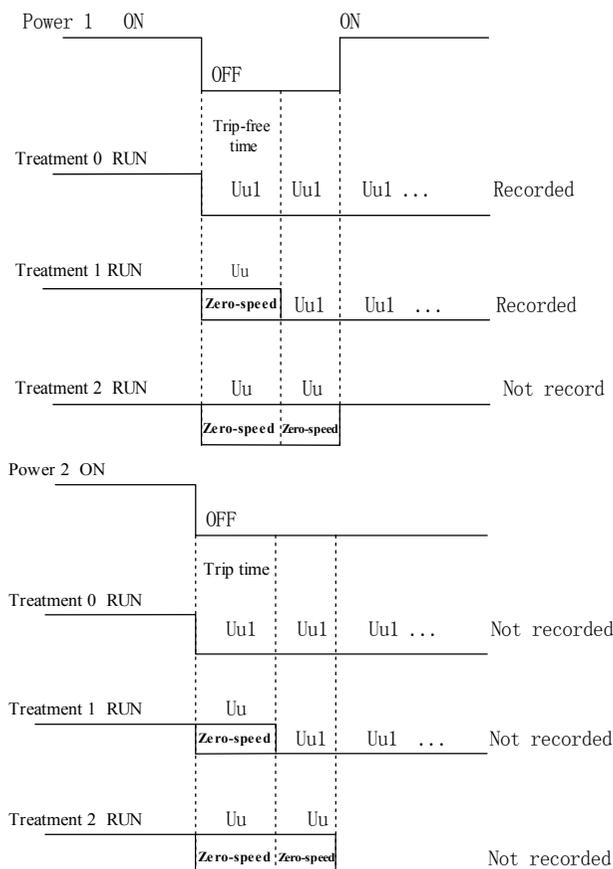

Fig. 5-1-7 Trip-free diagram
- ◆ If under voltage occurs in trip-time, the inverter will display Uu alarm only, and the motor cannot startup at this time. As shown in Fig. 5-1-7:
- ◆ If under voltage occurs in running, the inverter will display “Uu” alarm and “Uu1” fault, as shown in Fig.5-1-7. PWM output inhibits, motor runs at zero-speed. If the